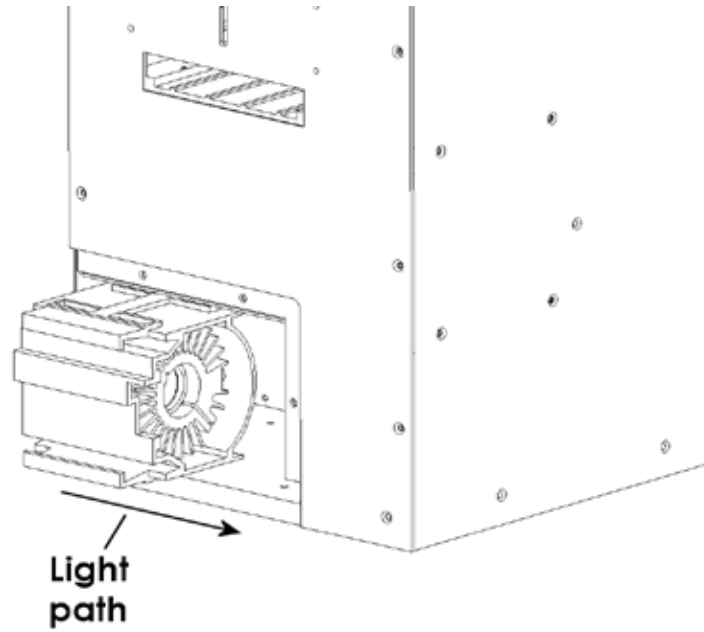

Figure 9. Returning the light bulb assembly to the Lambda-DG-4-series system.
| Figure 9. Returning the light bulb assembly to the Lambda-DG-4-series system..... | 10 |
1. Grasp the top and bottom handles of the blue plastic housing assembly and carefully reinsert the assembly into the cabinet (Figure 9) with the bulb window facing away from the lamp fan.